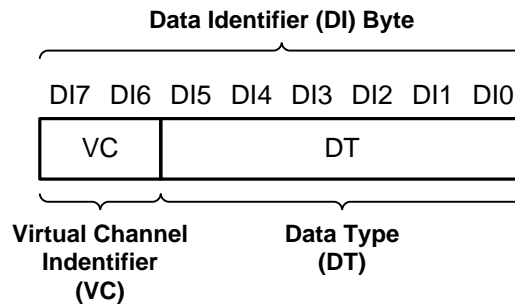

Figure 32. CSI-2 Data Identifier Structure
The DS90UB940-Q1 MIPI CSI-2 protocol interface transmits the data identifier byte containing the values for the virtual channel ID (VC) and data type (DT) for the application specific payload data, as shown in Figure 32. The virtual channel ID is contained in the 2 MSBs of the data identifier byte and identify the data as directed to one of four virtual channels. The value of the data type is contained in the 6 LSBs of the data identifier byte.